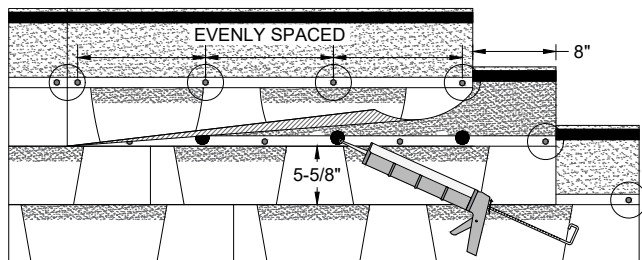

Figure 12 - Hand-Sealing Laminate Shingles
To hand-seal a laminate shingle, apply four (4) quarter-size dabs of asphalt roof cement conforming to ASTM D4586 evenly spaced under each shingle. Press shingles firmly into the cement. (See Figure 12)
shingle and *hand-sealing* of tabs (see Figure 12 for tab locations).
Windsor® shingles require a single, quarter-size dab centered under each shingle tab (see Figure 12).